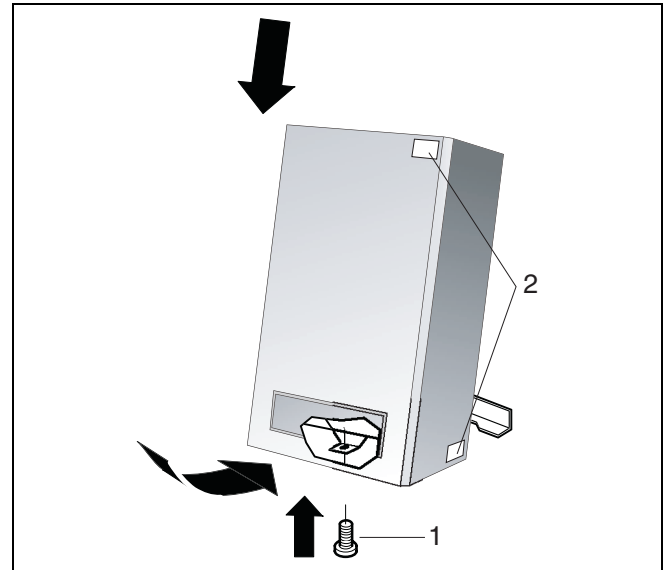

fig. 48 Refit casing and safety screw
- Refit the casing and the safety screw (fig. 48, item 1).